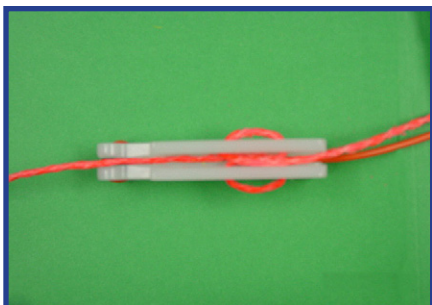

Figure 43 - Step 3, cord around second cleat and back in center groove.
3. Wrap the PRIMACORD 2 around the other cleat of the MSConnector and back up the center groove (Figure 43).